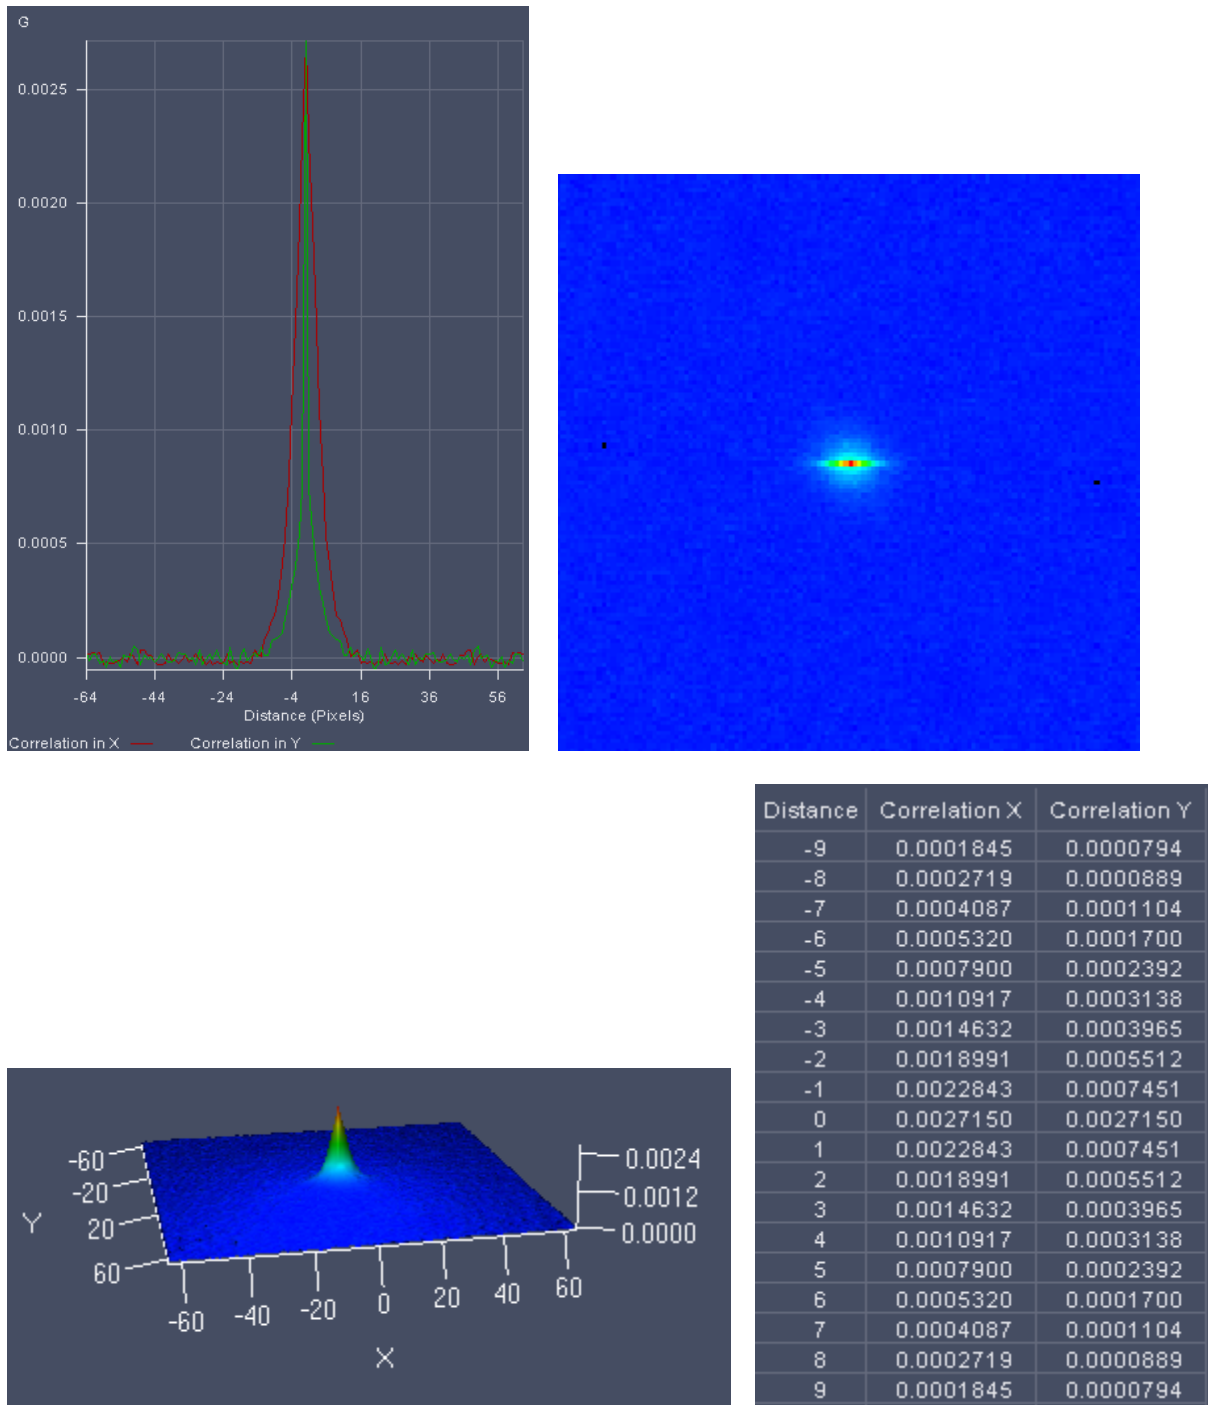

Fig. 716 Correlation displayed clockwise as Diagram, Image, Table and 2.5 D
2.5 D will display the correlation function and the fit / residuals if activated as pseudo 3D images (Fig. 716).